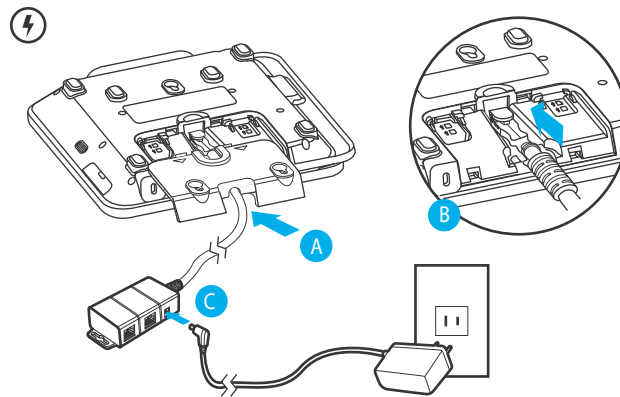

Figure 4 Multiport Cable Connected on the Rear of the Unit
- 2 Connect the multiport cable at the back of the device, Figure 4 \(B\).